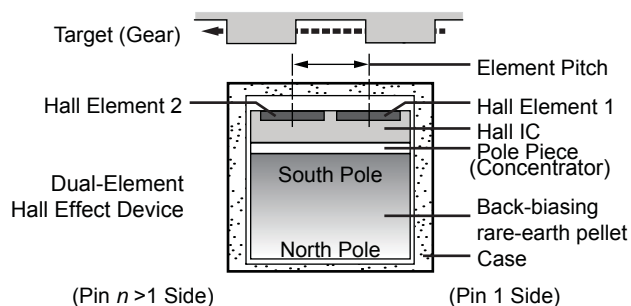

Figure 2. Relative motion of the target is detected by the dual Hall elements mounted on the Hall IC.
**Hall Technology.** The package contains a single-chip differential Hall effect sensor IC, a samarium cobalt pellet, and a flat ferrous pole piece (figure 2). The Hall IC consists of 2 Hall elements (spaced 2.2 mm apart) located so as to measure the magnetic gradient created by the passing of a ferromagnetic object. The two elements measure the magnetic gradient and convert it to an analog voltage that is then processed in order to provide a digital output signal.